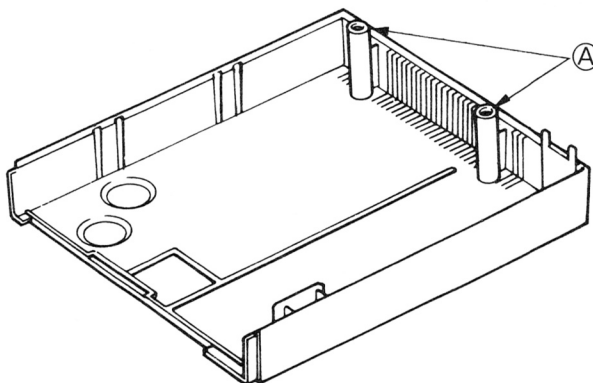

Fig. 3-13
Do not let the legs (A) of the upper case interfere with the movement of the shielded wire of the head (Fig. 3-13). Also, be sure to provide sufficient length to the shielded wire so that it can move freely, even if the head is moved to the center.